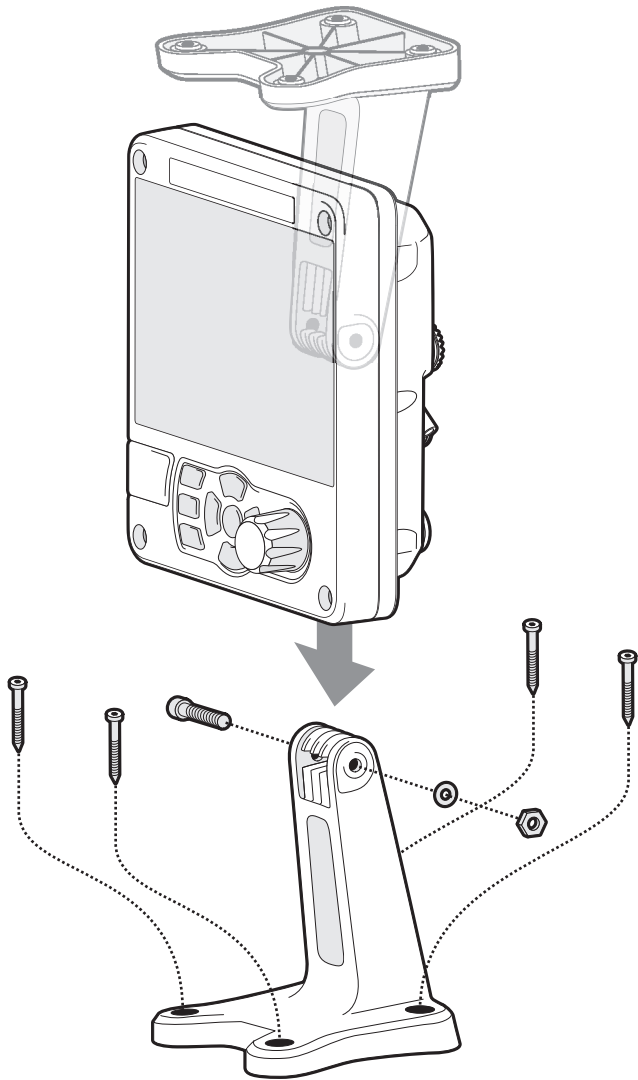

Figure 5 Desk mounting the AIS transceiver
- The AIS transceiver is supplied with four self-tapping screws for attachment of the AIS transceiver to a suitable surface using the supplied bracket. Please refer to Figure 5. for guidance.